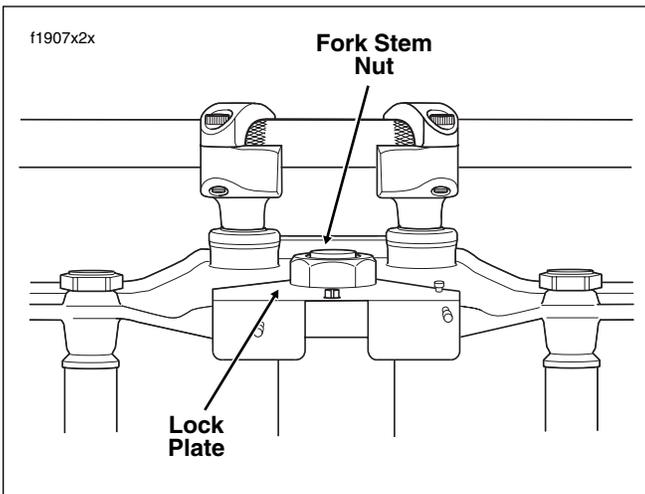

Figure 2-85. Fork Stem Nut
- Bend tab on lock plate away from flat of fork stem nut. Loosen the fork stem nut. See Figure 2-85.
2. Install upper fork bracket and fork stem nut. Tighten nut to 60-80 ft-lbs (81-109 Nm). Bend the lockplate tab against the nut flat. See Figure 2-85.